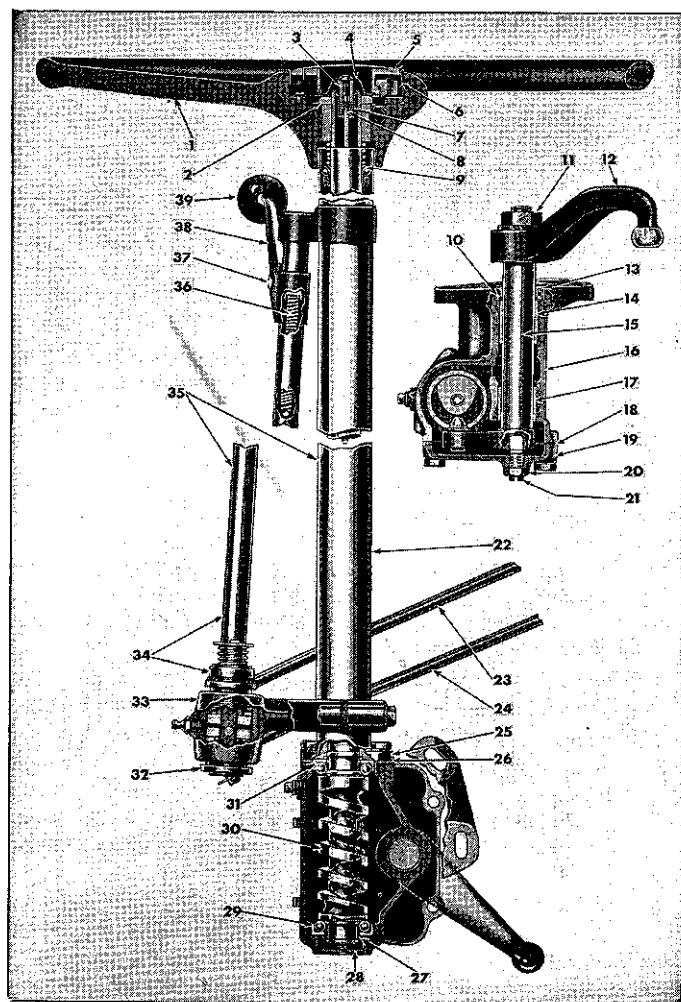

FIG. 294—STEERING GEAR
The cam and lever steering gear is illustrated in Fig. 294. It consists of a spiral cam, and a cross shaft and lever assembly with two lever studs. When the steering wheel is turned, the cam moves the studs, causing rotary movement of the cross shaft, which in turn causes angular movement of the steering arm.
a. Remove the steering gear arm (Fig. 294, No. 12) with a puller.
b. Loosen the lock nut and unscrew the adjusting screw (21) two turns.
c. Remove the side cover screws and washers. Remove the side cover (19) with its gasket.
d. Remove the lever shaft (15).
e. Remove the upper cover plate screws. Remove the cover (25), cam, and wheel tube and bearing assembly from the housing.